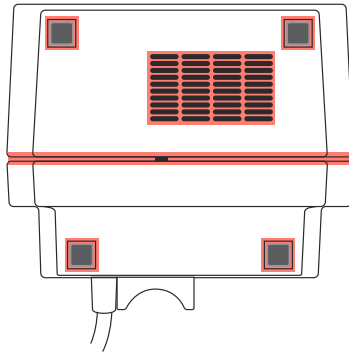

Figure 8-1.
1. Rest the infuser on one side to expose the bottom (**see Figure 8-1**).
2. Use a brush to remove debris then moist swabs to clean any openings or hard to reach areas highlighted in **Figure 8-1**.
- Using lint-free cloths dampened in the approved cleaning solution or wipes, wipe the top and side surfaces. Use a combination of brush and swab as needed to clean the seam that joins the front and rear parts of the infuser case highlighted in **Figure 8-1**.